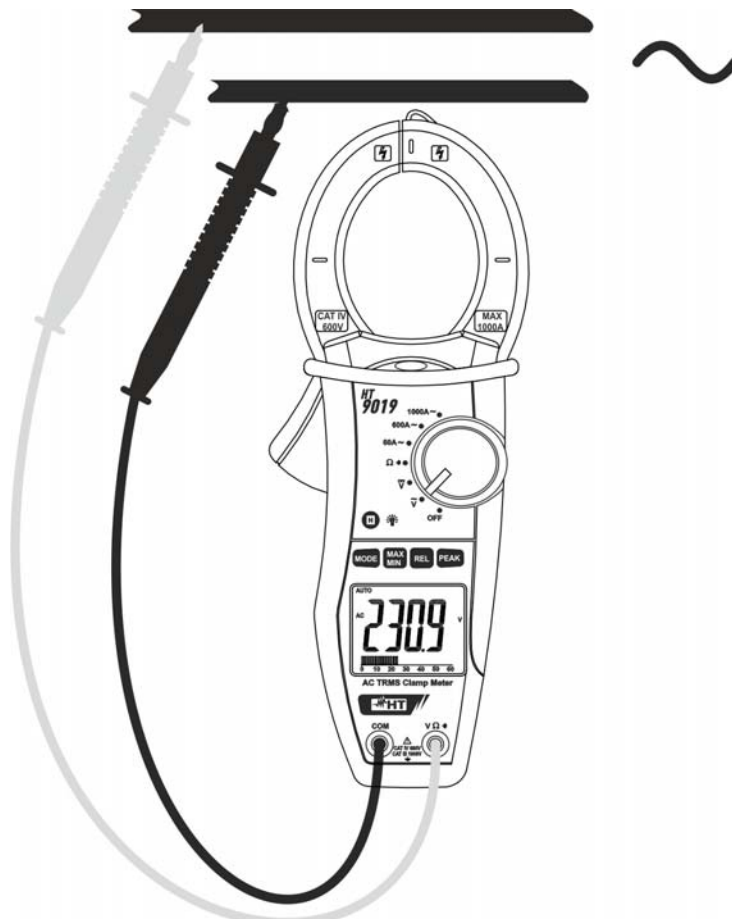

Fig. 3: Taking AC voltage measurements
2. Insert the red test lead plug into  $V\Omega$  jack and the black test lead plug into **COM** jack (Fig. 3)